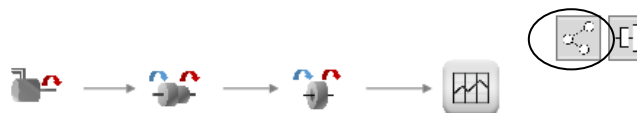

Fig. 23 Auto-connect button
- The auto-connect button allows to connect mechanical elements (see Fig. 23). The Target is to create one unique valid kinematic chain that starts with a motor, has several mechanical elements and ends with a profile. The connection criterion is as follows: